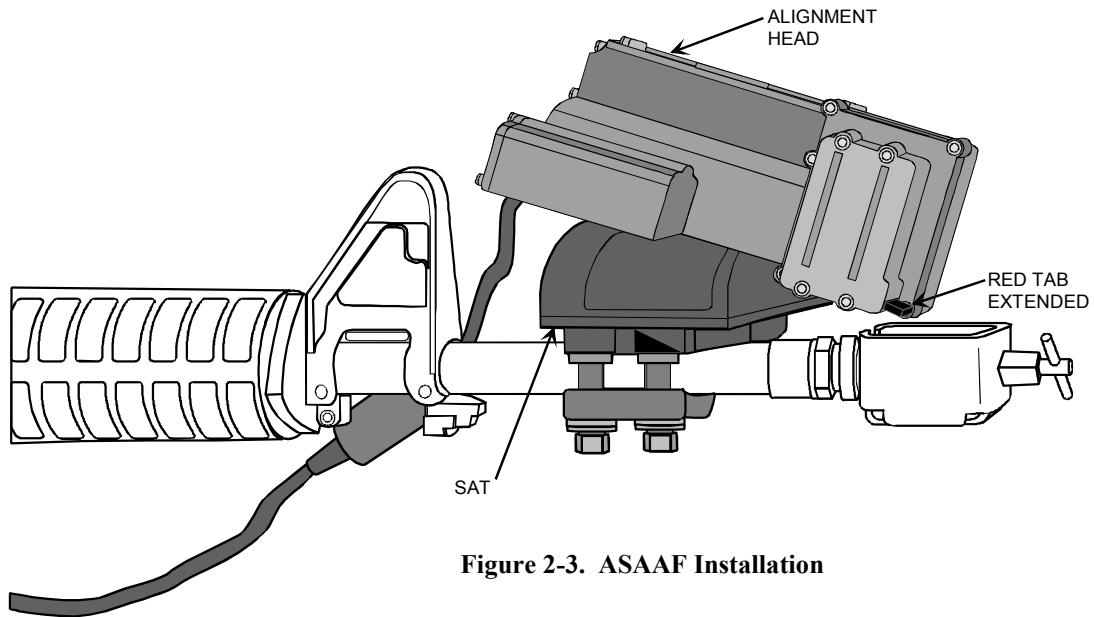

Figure 2-3. ASAAF Installation
2.3.2 Installation Procedures. (See Figures 2-3 and 2-4.)